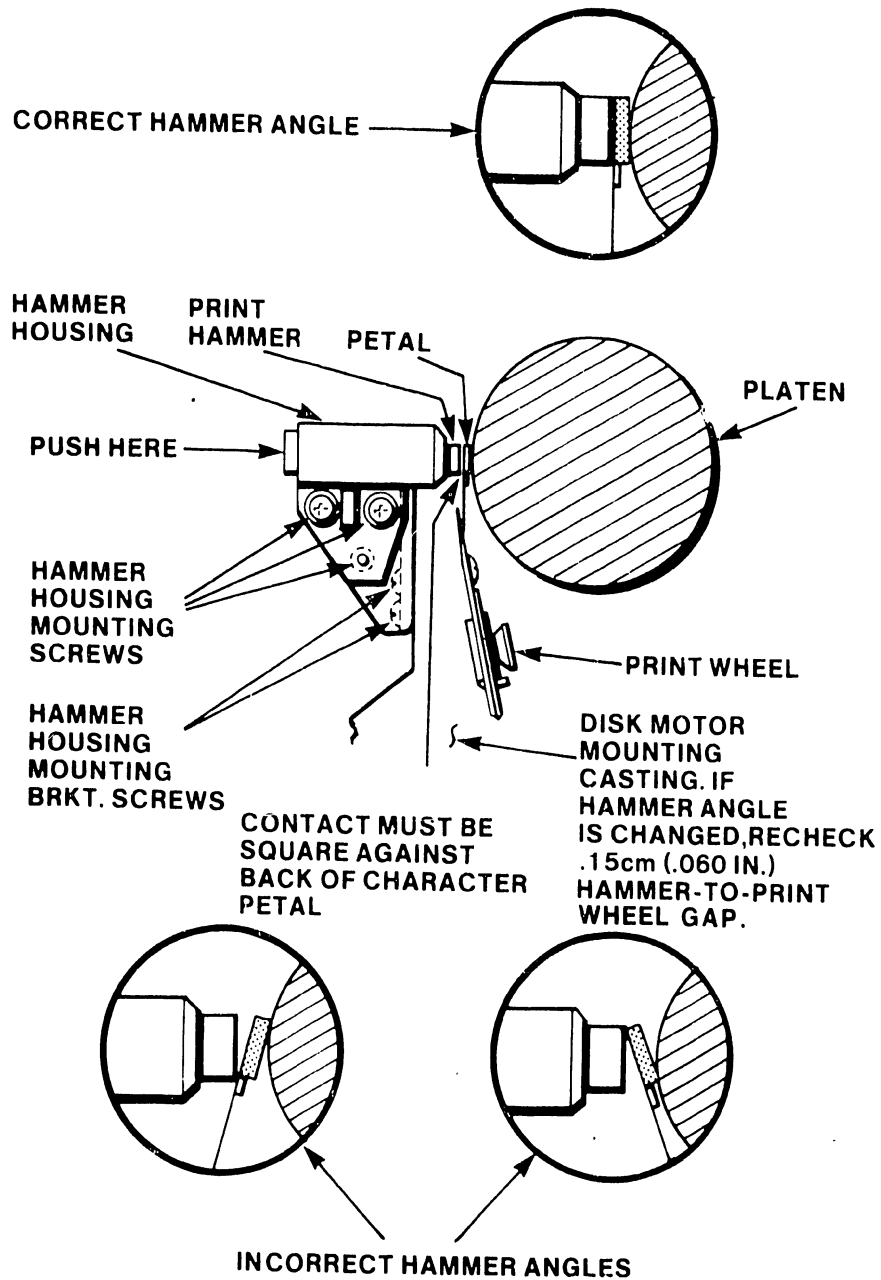

FIGURE 5-18 PRINT HAMMER ANGLE ADJUSTMENT
For proper printing of characters the print hammer should strike the print wheel petal evenly as shown in Figure 5-18.
2. Push the print wheel hammer forward against the print wheel petal. As the character face comes in contact with the platen, the hammer (top and bottom, left and right sides) should be flush with the back of the print petal (see Figure 5-18 for examples).
1. Loosen three hammer housing mounting screws (Figure 5-18).
3. Tighten three hammer housing mounting screws (Figure 5-18).